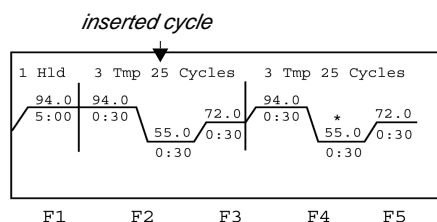

Figure 4-16. Example of Inserted cycle
4. Press **F2-Cycle** to insert a cycle to the left of the segment you selected in step 1 (Figure 4-16).